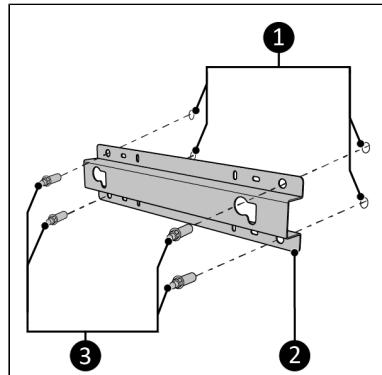

Figure 23.
1. Place the wall bracket (Figure 23, pos. 2) against the wall and mark the four holes (Figure 23, pos. 1). Make sure to place the bracket upright (see label "This side up" on the bracket).
4. Tighten the wall bracket to the wall with the four nuts (Figure 23, pos. 3).